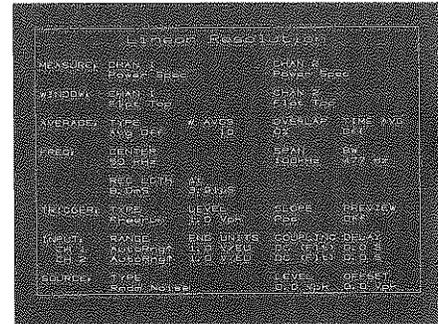

Figure 5-1
- 1. Special Preset** Press the green **PRESET** key. Select the **P SPEC LINRES** softkey to activate the preset dc-to-100 kHz power spectrum measurement. The state is shown in Figure 5-1.